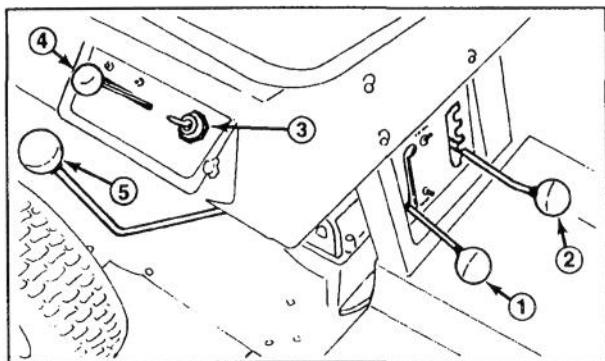

Figure 5
**Gear Shift (Fig. 5)**—The transmission has five forward speeds, neutral, and reverse. The gear shift lever is located on right side of operator. An interlock switch, which prevents engine from being started when transmission is in gear, is mounted on top of transmission.
**Blade Control (Fig. 5)**—Blade control engages and disengages the cutter blade. An interlock switch prevents engine from starting when control is in the ENGAGE position. Engine will start when control is in the DISENGAGE position only.
**Throttle Control (Fig. 5)**—Throttle control connects to and operates carburetor-mounted throttle and choke. Control has three positions: SLOW, FAST and CHOKE.
**Height-of-Cut (Fig. 5)**—Height-of-cut control varies the cutting height from approx. 1-1/2 to 3-1/2 inches in five increments.
2. Move gear shift into neutral and blade control into DISENGAGE detent (Fig. 5).
3. Move throttle control to CHOKE position (Fig. 5) when starting a cold engine. However, a hot engine
4. Rotate ignition key (Fig. 5) to START position. When engine starts, release the key and move throttle between FAST and SLOW if choke was used for starting. Operate the rider with throttle control in FAST (full throttle) position for best performance.
1. Move blade control into DISENGAGE detent (Fig. 5).
2. Move height-of-cut control (Fig. 5) into desired setting.